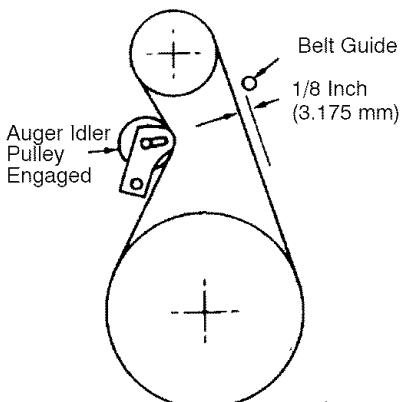

Figure 32
3. Measure the distance between the belt guide and belt. The distance should be  $1/8$  inch (3.175 mm) for guide. See Figure 32.